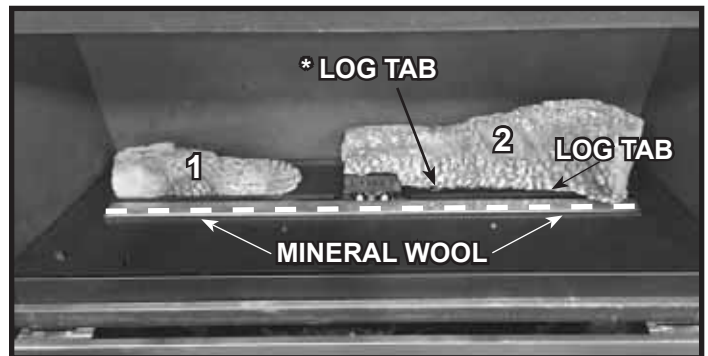

Figure 5. Place Log #2 - Mineral Wool Placement
9. COSMO42-IFT: Install Log #2 by placing the cutout on the left side of the log over pilot shield and pull log forward until it contacts the two log tabs. See Figure 5.
10. Install mineral wool on burner. Mineral wool can be placed the entire length of the burner, but it must only be placed between the front row of ports and the space in front of the burner. The mineral wool should not cover any ports or fall so that it covers the gap behind of the burner. See Figure 5.